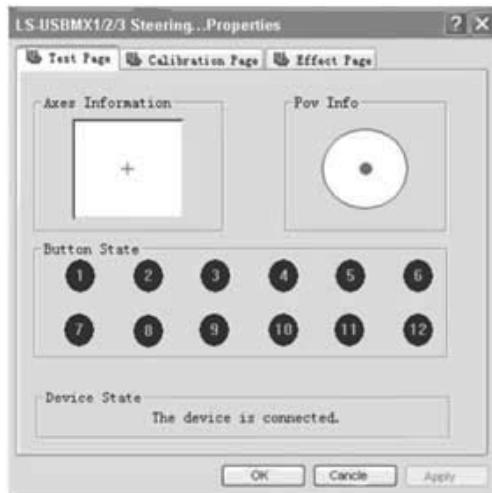

Fig. 7
- *Axes Test.* Pass to the "Test Page" bookmark (see Fig. 7), rotate the wheel from left to right and make sure that the X-axis ("+" cross-cursor) in the "Axes Information" window moves from left to right correctly. If the cross cursor is not at the center of the window, please enter "Calibration Page" to calibrate it.
- *Button Test.* Press the wheel buttons to see if button 1 to 12 in the "Test Page" turns red for each button action (see Fig. 7).
- *D-PAD Test.* Press each direction of the D-PAD (UP, DOWN, RIGHT, LEFT and 45 degree for each direction) to see if the cursor in "Povinfo" is moving correctly (see Fig. 7).